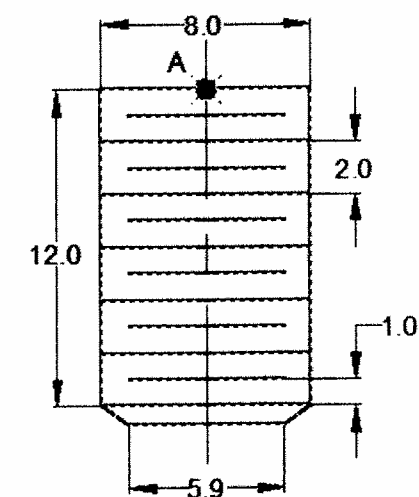

Figure 6-2e
- Click on the block, the block will have only one grip point. The base point is the only grip point, Figure 6-2e.